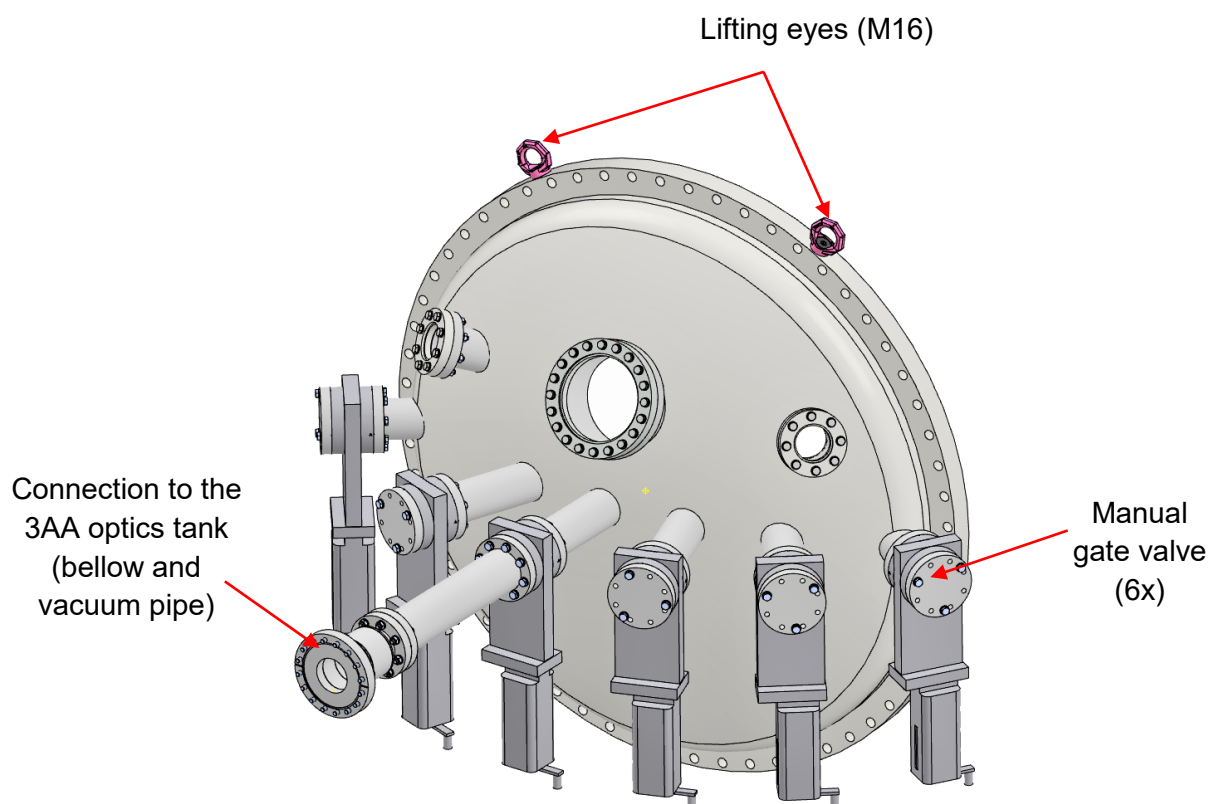

Figure 18: Exit flange of the sample chamber.
3. The next step is to remove the exit flange of the sample chamber, see Figure 18. Please follow the steps listed below:
- use a heavy duty belt and two lifting eyes (M16) as shown in Figure 18 to secure the flange